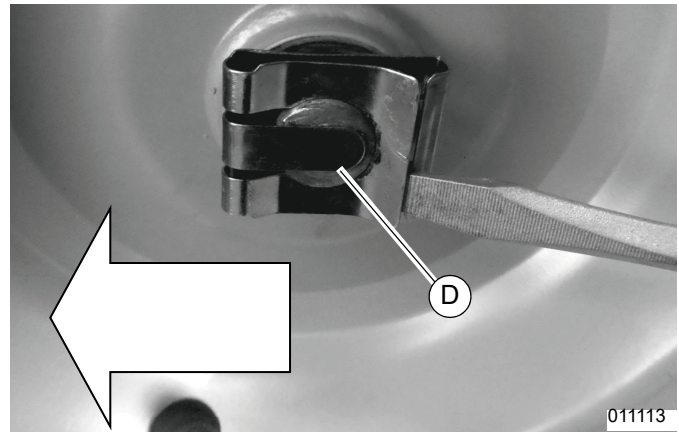

Figure 4-20. Removing Wheel Clips
5. See Figure 4-20. Push clips off axle shaft (D).